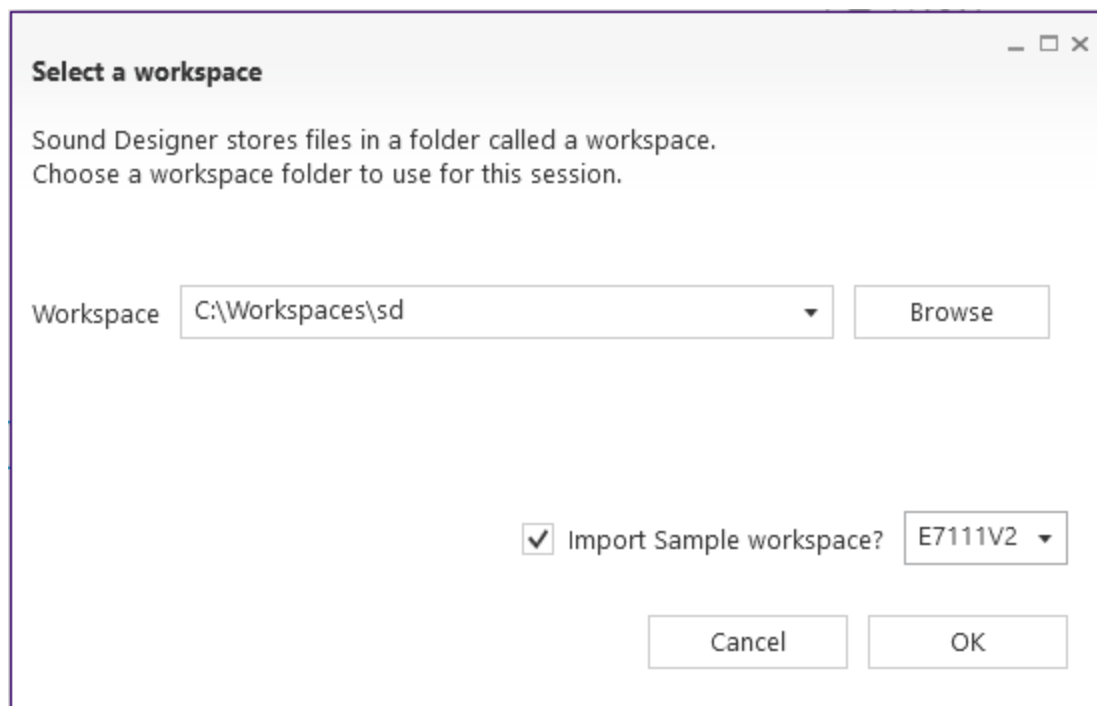

Figure 6. Selecting a Workspace
3. When the **Select a Workspace** dialog box appears, you need to choose a workspace to for Sound Designer Software. For new installations, we highly recommend selecting an empty directory for the workspace. Errors might occur if opening a workspace created using an earlier version of the Sound Designer Software Application. To create a workspace, click **Browse** and the software allows you to create one. If you click **Browse** and select a pre-existing directory for your workspace, make sure it is empty. To begin working with the Ezairo 7111 V2, check **Import Sample Workspace**, and select **E7111V2** from the drop-down list. Click **OK**. (See the "Selecting a Workspace" figure (Figure 6).)